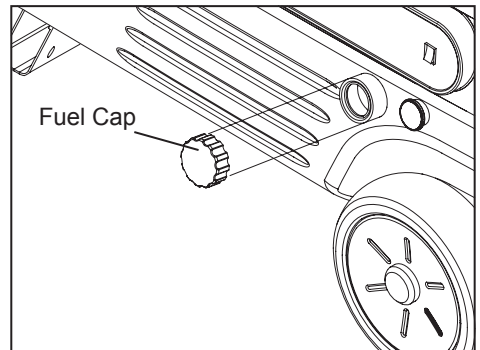

Figure 11. Remove Fuel Cap
1. Remove Fuel Cap (See Figure 11).